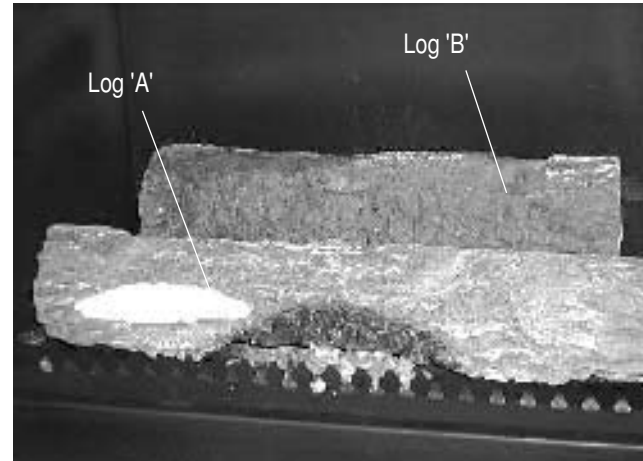
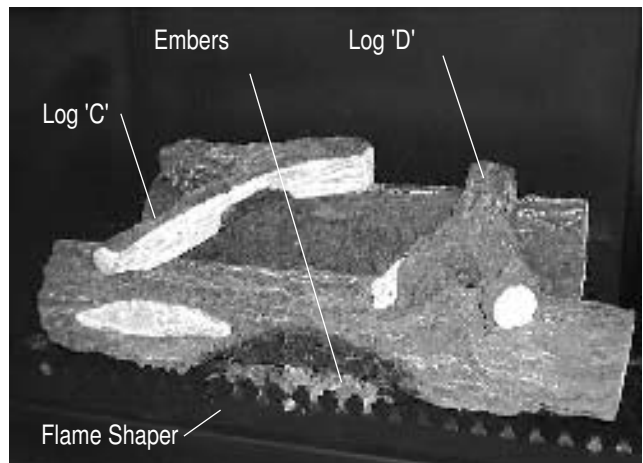

Figure 8a. Logs 'A' and 'B' shown in factory-installed positions.
Figure 8b. Completed log installation. Logs 'C' and 'D' are placed in their mating positions, and embers are in place.
The **ME34-BV** is supplied with four (4) soft fibre logs. Logs "A" and "B" are permanently attached to a fibre base, which is pre-installed by the factory. To install the two small logs ("C" and "D"), simply place them onto their mating positions as shown in figure 8a below. When log set is installed it should look like figure 8b.